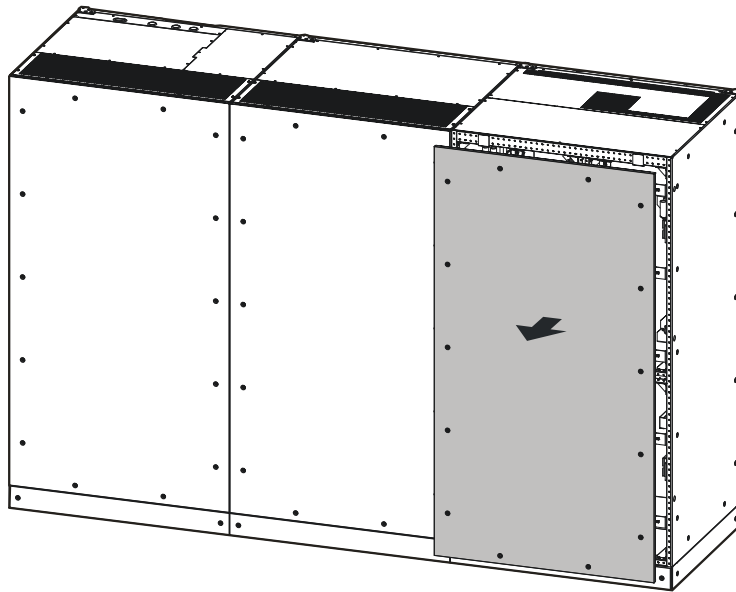

Figure3-44 Dismantle wiring cover plates of PS1000KVA, PS1200KVA
Step 1 Use the cross screwdriver to remove the screws from the wiring block, and dismantle wiring cover plates, as shown in Figure3-44.